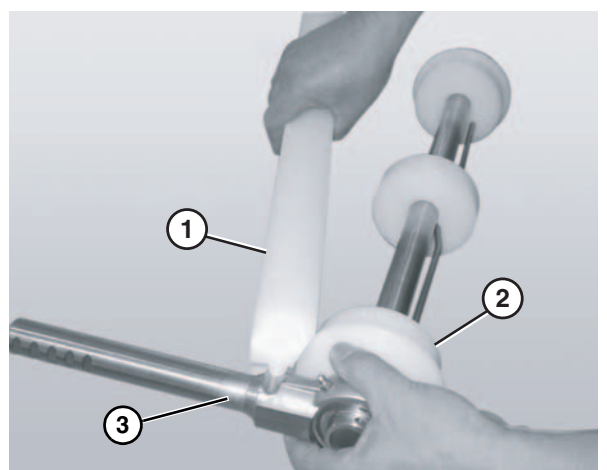

Figure 75
5. Slide the bearing shaft assembly (**Figure 75, item 3**) off the idler shaft.
6. Remove the guard bar (**Figure 75, item 1**).
7. Slide the pucks (**Figure 75, item 2**) off the idler shaft.